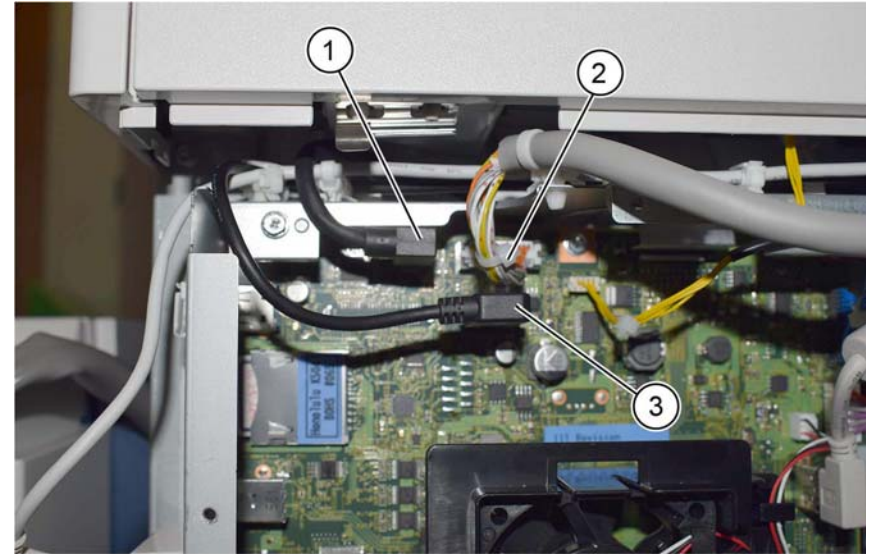

Figure 6 Cables
9. Disconnect the USB, DADF I/F and UI cables, Figure 6:
- a. Disconnect the USB cable (1).
- b. Disconnect the DADF I/F cable (2). (C7030F only).
- c. Disconnect the UI cable (3).